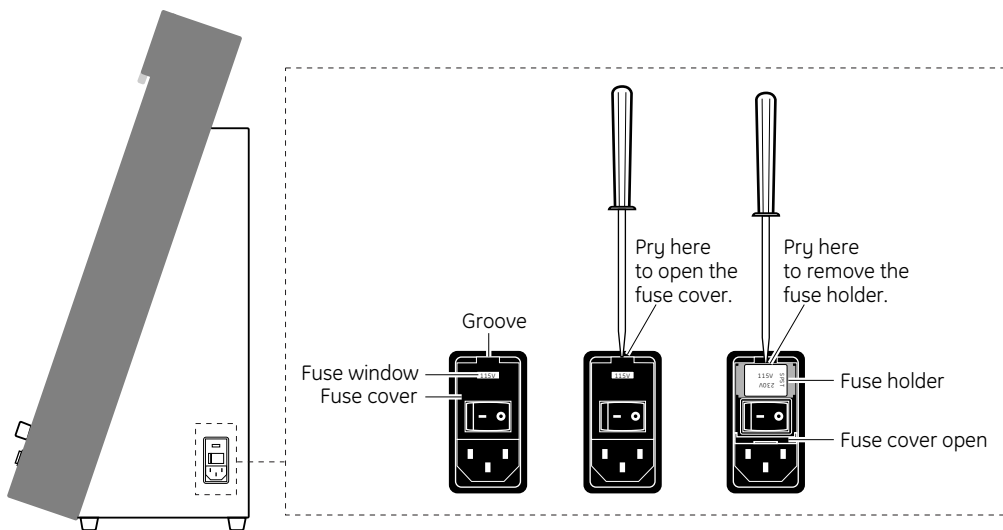

Fig 14-3. Opening the fuse box.
- 2 Note the voltage (115V or 230V) showing in the fuse window (fig 14-3).
- 4 Place the end of a small flathead screwdriver in the groove and pry open the fuse box (fig 14-3).